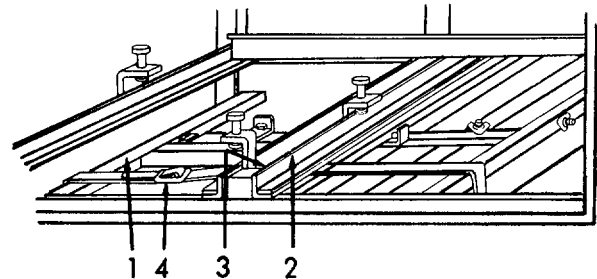

Figure 2-67. Folding Stands, Installation.
- (3) Refer to Figure 2-67. Make sure that all folding stands (1) are stowed in cabinet.
- (4) Install crossbrace (2) and secure with pin (3).
- (5) Fasten the straps (4) to secure the folding stands.
- (6) Repeat steps (3) through (5) for the other side.